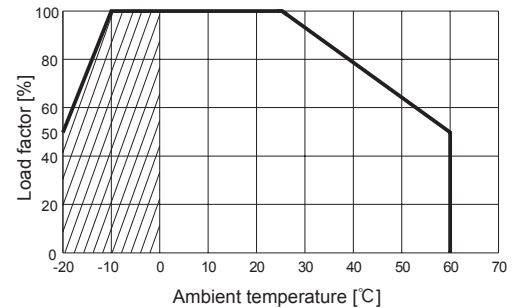
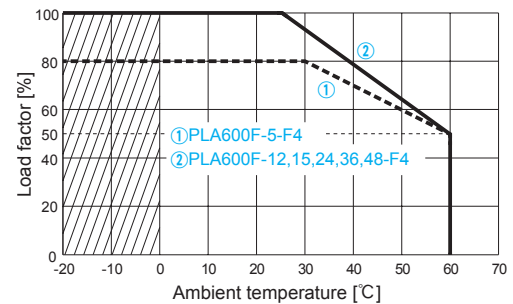

Fig.5.19 Ambient temperature derating curve for PLA300F (Option-F4)
Fig.5.20 Ambient temperature derating curve for PLA600F (Option-F4)
- The differences from the standard fan versions are shown in Fig. 5.19 - Fig. 5.20.